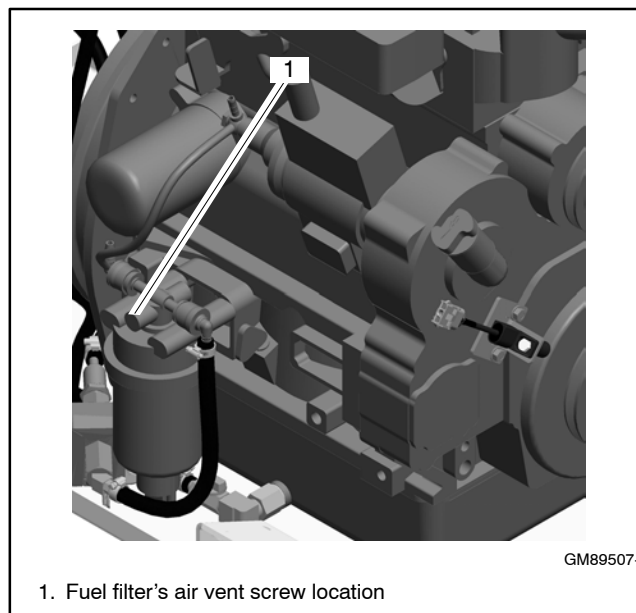

Figure 5-3 Fuel Filter's Air Vent Screw
1. Loosen the fuel filter's air vent screw. See Figure 5-3. Place a suitable container underneath to collect the fuel.